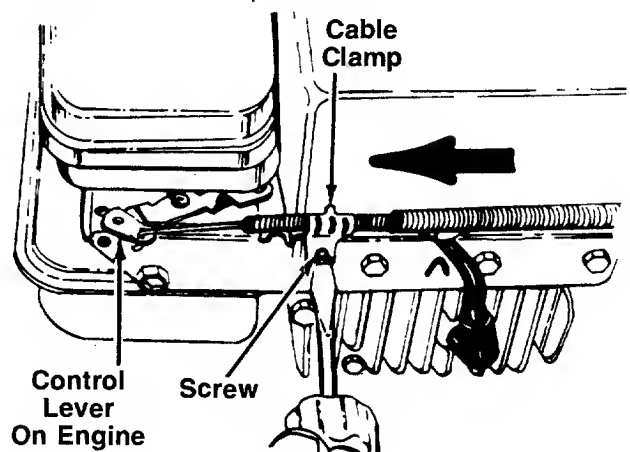

FIGURE 16B.—Briggs & Stratton Sprint Engines
1. Loosen (do not remove) the screw on the cable clamp so that the cable will move freely under the clamp. See figure 16B or 16C.